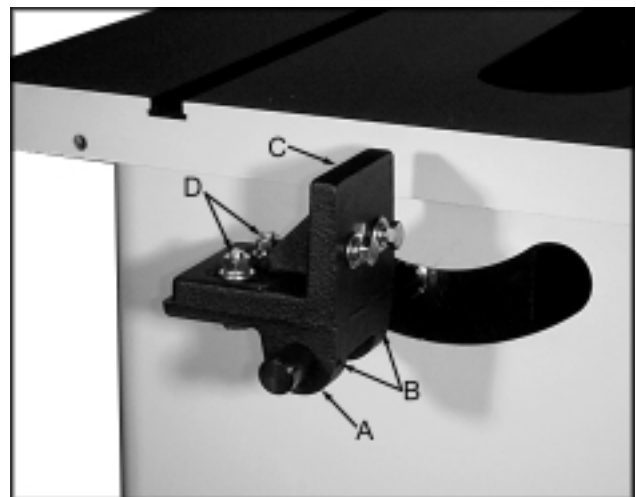

Fig. 6
3. Slide lower blade guard bracket (A, Fig. 6) onto blade guard post and tighten set screws (B, Fig. 6) just enough to hold the bracket in place.
4. Attach upper blade guard bracket (C, Fig. 6) to lower blade guard bracket with two hex cap bolts, four flat washers, two lock washers and two hex nuts (D, Fig. 6). Hand tighten only at this time.